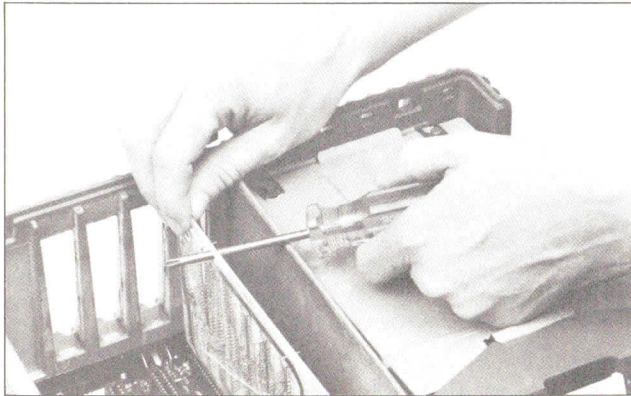

Figure 2-3. Removing a Dummy or a Peripheral Card
- 8 Figure 2-3 Removing a Dummy or a Peripheral Card
To remove a dummy card (or a peripheral interface card), rock the card slightly toward the keyboard then pull it straight up and out of the well as shown in Figure 2-3. To assist you, there is a hole drilled in the top of each card. You can insert a screwdriver into the hole and pry the card up, using the side of the well for leverage. Now you are ready to install your ProFile interface card.